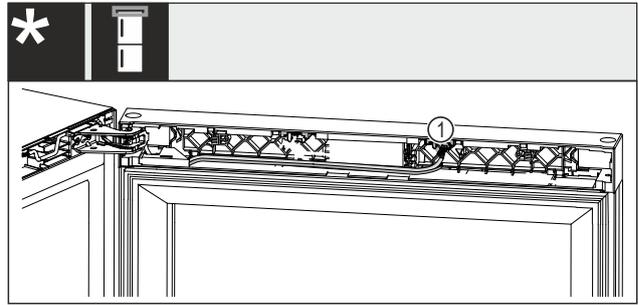

Fig. 24 Wine-freezer combinations*
- ▶ Pull the plug Fig. 24 (1) out of the retaining clip.*